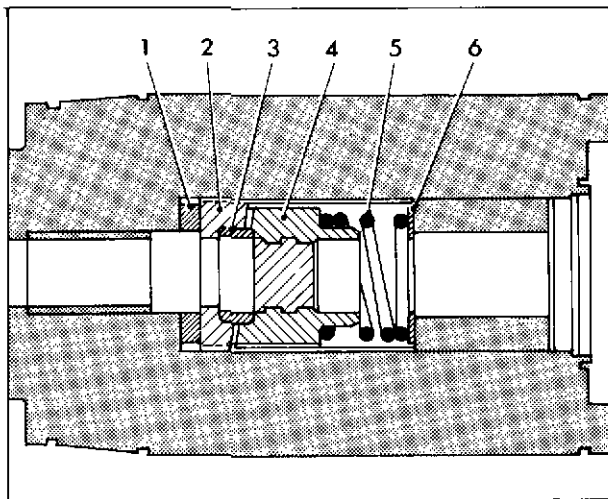

Fig. 10 Assembling ratchet mechanism
9. Lightly smear the ratchet components with Aero Shell 16 grease, then assemble them into the armature in the following order: Thrust washer (1) fig. 10, armature sleeve ratchet (2), thrust ring (3), helix sleeve ratchet (4), spring (5) and washer (6).